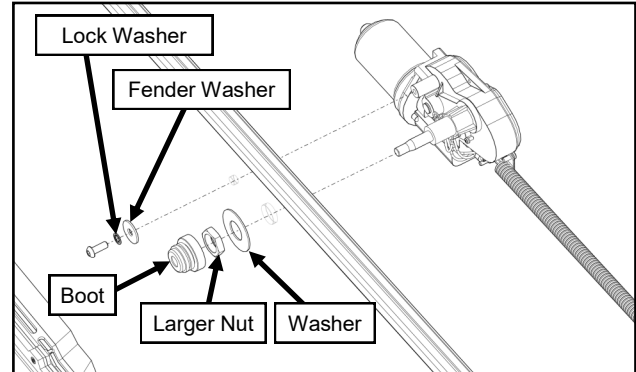

Fig. 1.9 (Install Wiper Motor onto Installed Windshield)
- 1.9 Per figure 1.9, install wiper motor to the top center part of the installed windshield using much of the hardware provided in the wiper hardware mounting kit.